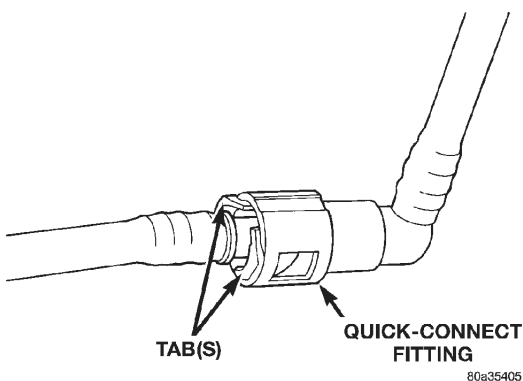

Fig. 18 Typical Two-Tab Type Quick-Connect Fitting
This type of fitting is equipped with tabs located on both sides of the fitting (Fig. 18). These tabs are supplied for disconnecting the quick-connect fitting from component being serviced.
(1) Perform fuel pressure release procedure. Refer to Fuel Pressure Release Procedure in this group.
(2) Disconnect negative battery cable from battery.
(3) Clean fitting of any foreign material before disassembly.
(4) To disconnect quick-connect fitting, squeeze plastic retainer tabs (Fig. 18) against sides of quick-connect fitting with your fingers. Tool use is not required for removal and may damage plastic retainer. Pull fitting from fuel system component being serviced. The plastic retainer will remain on